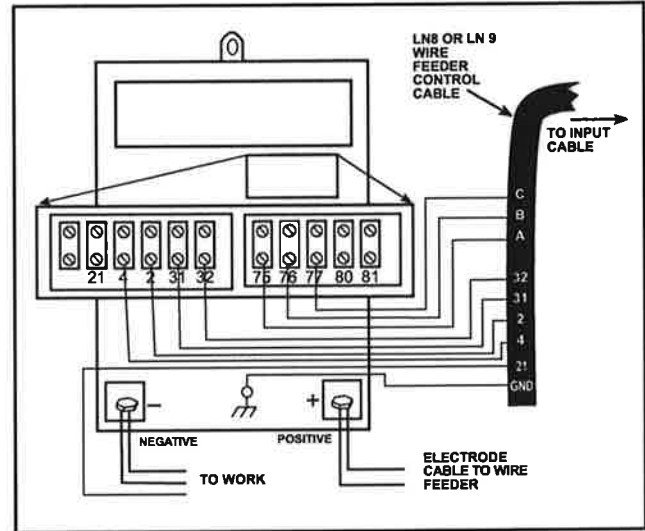

FIGURE C.7 - LN-8 OR LN-9 WIRE FEEDER CONNECTION TO THE IDEALARC DC-600
3. Connect the wire feeder control cable leads to the IDEALARC DC-600 terminal strip as shown in Figure C.7.
NOTE: The connection diagram shown in Figure C.7 shows the electrode connected for positive polarity. To change polarity: